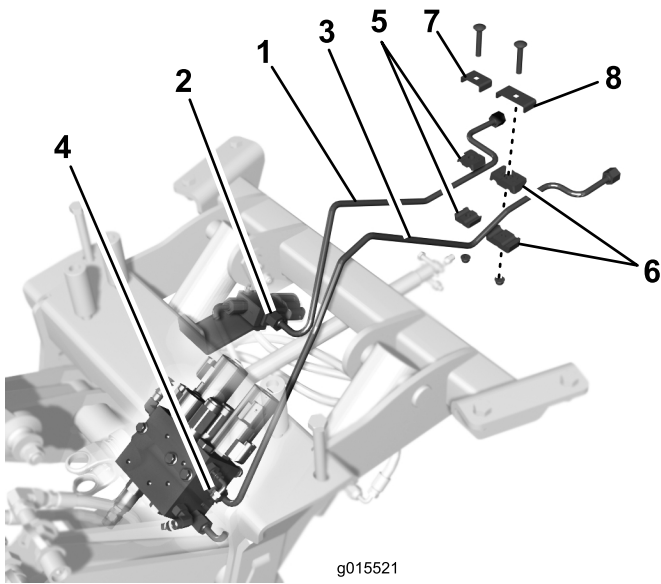

Figure 9
3. Connect the rear end of the shorter hydraulic tube to the tube on the machine (Figure 9).
4. Connect the rear end of the longer hydraulic tube to the tube on the machine (Figure 9).
6. Loosely secure the shorter hydraulic tube to the adjacent tube, on the machine, with the smaller tube clamp, plate, carriage screw and flange nut, as shown in Figure 9.
7. Loosely secure the longer hydraulic tube to the adjacent tube, on the machine, with the larger tube clamp, plate, carriage screw and flange nut, as shown in Figure 9.